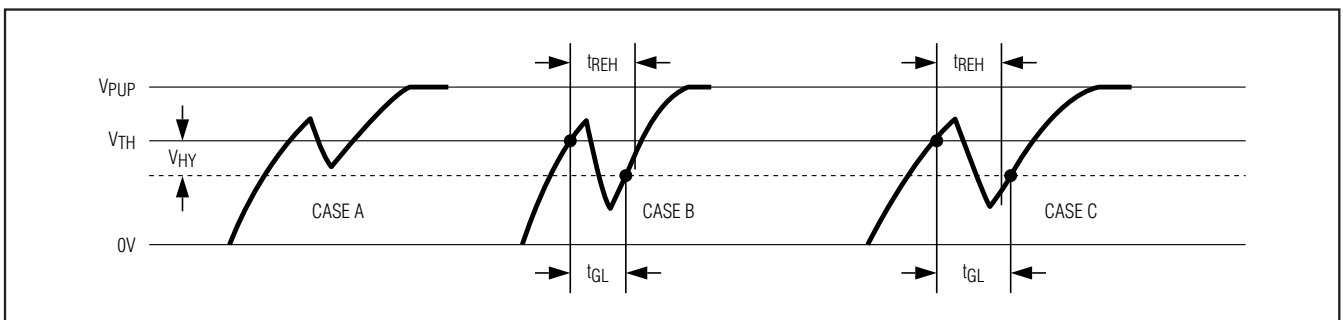

Figure 12. Noise Suppression Scheme
- 2) There is a hysteresis at the low-to-high switching threshold V_{TH} . If a negative glitch crosses V_{TH} but does not go below $V_{TH} - V_{HY}$, it will not be recognized (Figure 12, Case A). The hysteresis is effective at any 1-Wire speed.
- 3) There is a time window specified by the rising edge hold-off time t_{REH} during which glitches are ignored, even if they extend below the $V_{TH} - V_{HY}$ threshold (Figure 12, Case B, $t_{GL} < t_{REH}$). Deep voltage drops (Figure 12, Case C, $t_{GL} \geq t_{REH}$).
or glitches that appear late after crossing the V_{TH} threshold and extend beyond the t_{REH} window cannot be filtered out and are taken as the beginning of a new time slot (Figure 12, Case C, $t_{GL} \geq t_{REH}$).